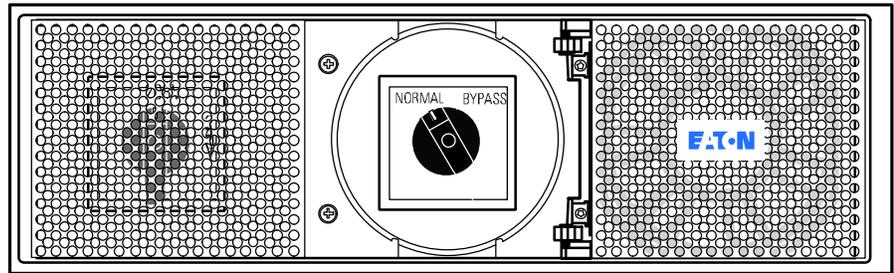

Figure 16. Resetting the Switch to UPS (Normal)
- If the bypass switch is set on Bypass instead, turn the bypass switch to the UPS (normal) position (see Figure 16). Replace the square center cover and go to Step 5.